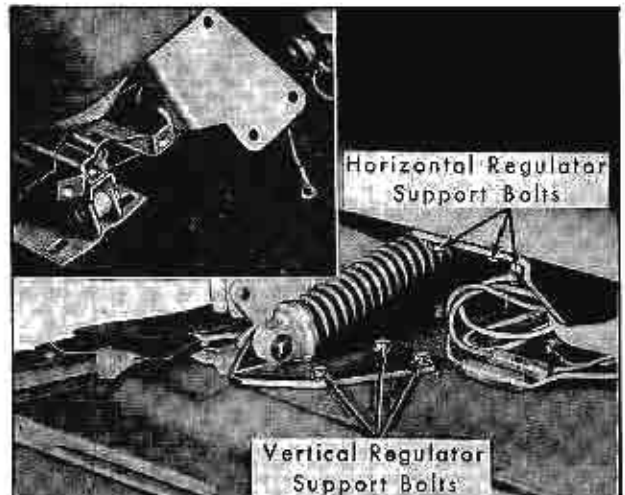

Fig. 3-58 Detaching Vertical Regulator Support
5. Under front of seat, remove vertical regulator support screws and tie regulator to the horizontal equalizing rod as shown in inset, Fig. 3-58,